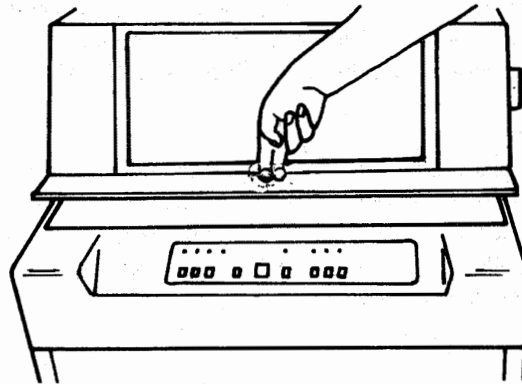

Figure 11-2. Opening the Printer Cover
- 1 Open the printer cover as shown in Figure 11-2. Press the latch to unlatch the cover, and lift the cover.
- 1 Open the printer cover as shown in Figure 11-2.